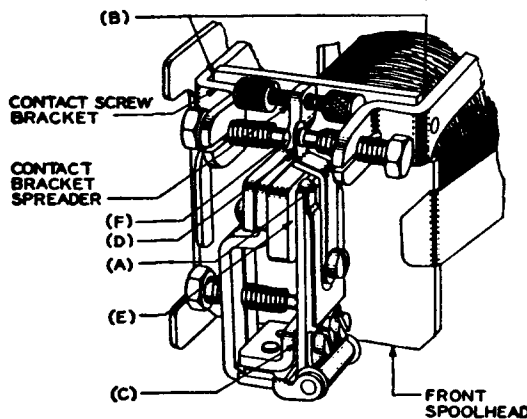

Fig. 1 — Relay Equipped With Contact Bracket Spreader
1.01 Clearance Between Contact Spring and Retractable Spring: Fig. 1(A) — Contact spring and its support shall not touch sides of slot in retractile spring in operated or unoperated position of armature.
(b) Relays with contact bracket spreader, Fig. 1(B):
1.05 Base Gap (Readjust Only): Fig. 1(C) — Min 0.009 inch, Max 0.011 inch. No. 74D gauge.
(a) Fig. 1(D): Min 3, Max 7 grams against spring support. No. 70F gauge. For "test" the requirement is met if contact spring rests on support at least within 1/16 inch of extreme end of support.
1.07 Armature Travel: Fig. 1(E) — Min 0.009 inch, Max 0.011 inch. No. 74D gauge.
1.08 Contact Separation: Fig. 1(F) — Min 0.003 inch, Max 0.005 inch. No. 74D gauge.